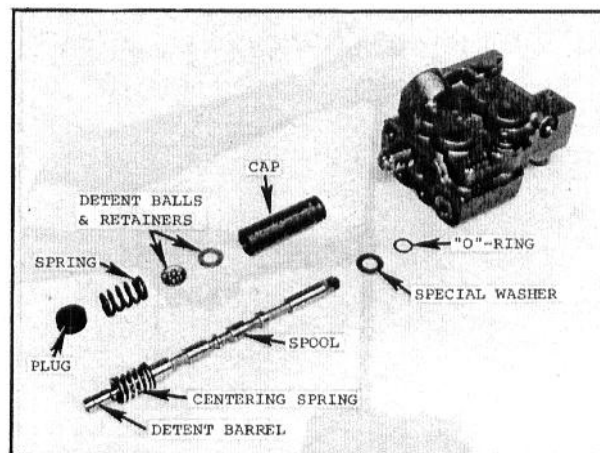

Fig. 34 — Boom Spool and Related Parts Removed From Valve
11. Carefully insert boom spool into its bore then install cap making sure that "O"-ring and washer fits into recess in valve body at spring end. Also see Fig. 34.